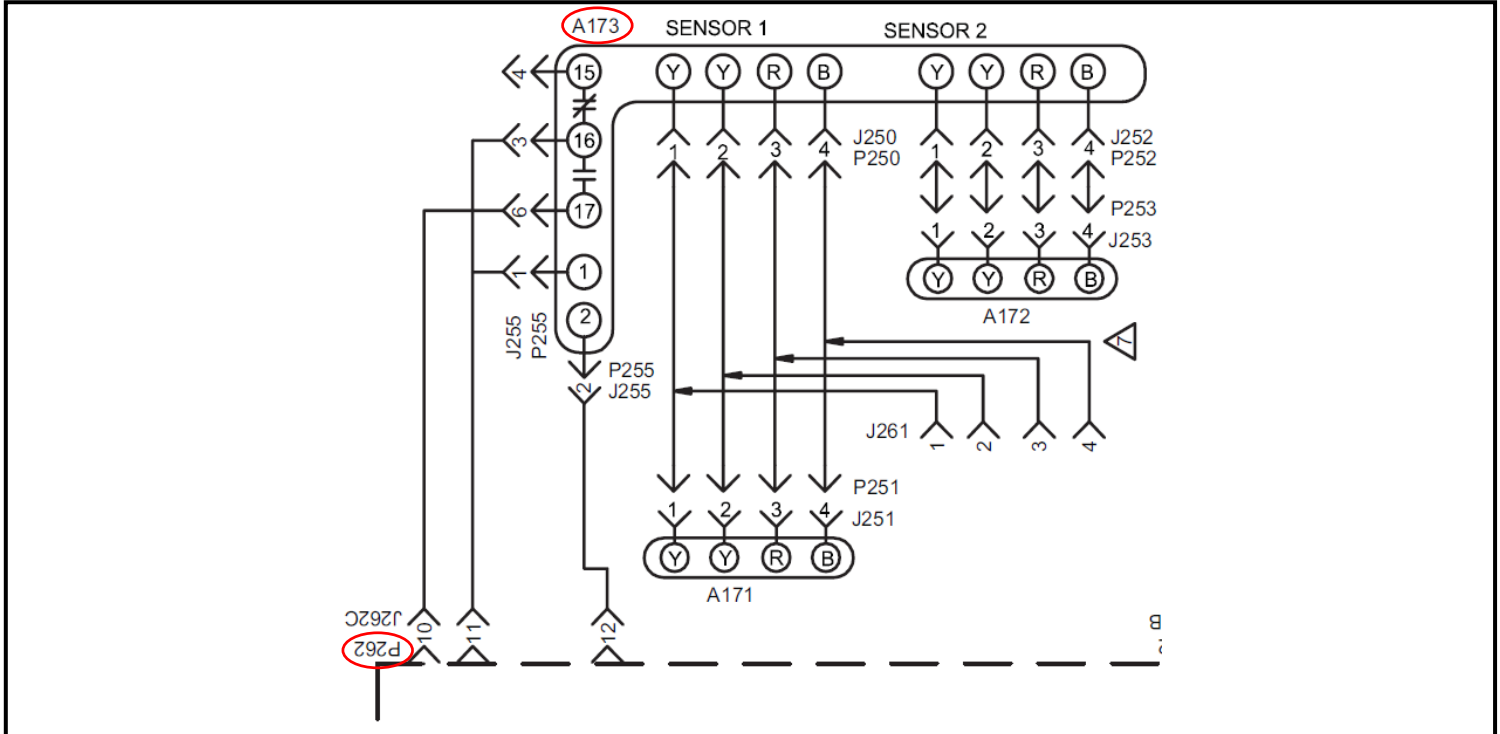

Figure 2. Wiring Diagram – P262
2. Refer to the wiring diagram in the Prodigy Setup Guide – 507241, or Figure 2 below, and locate two boards labeled A173 and P262.